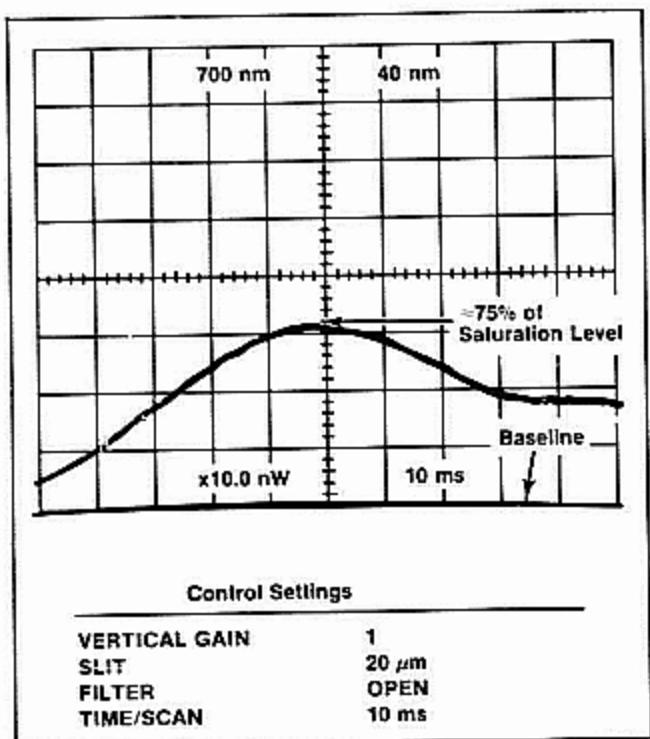

Fig. 2. Spectral display with amplitude reduced to approximately 75% of vidicon saturation level.
6. Position the light source in front of the spectrometer entrance slit in a manner that will yield a spectral display whose maximum amplitude is approximately equal to 75% of the vidicon saturation level. See Fig. 2.